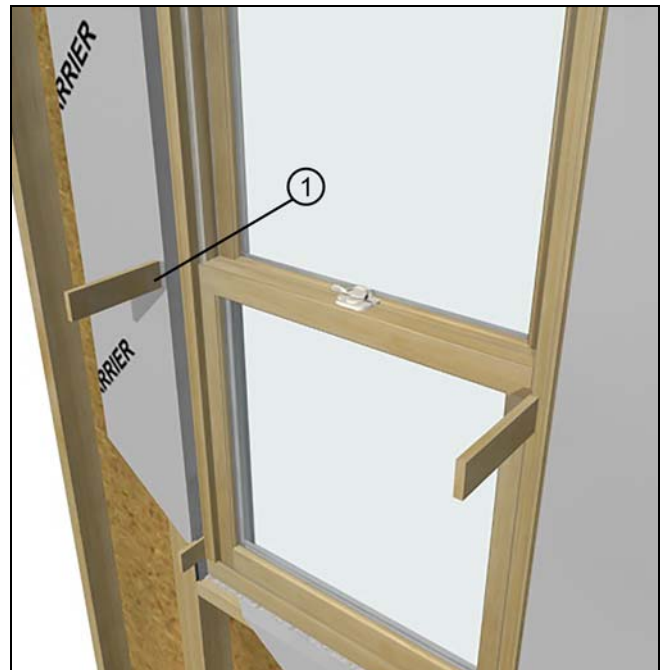

Figure 17 Shim at middle of jamb or check rail
5. Add additional shims 15" (381) intervals on center as well as at every lock point. Always shim at check rails and meeting stiles. See Figure 17.